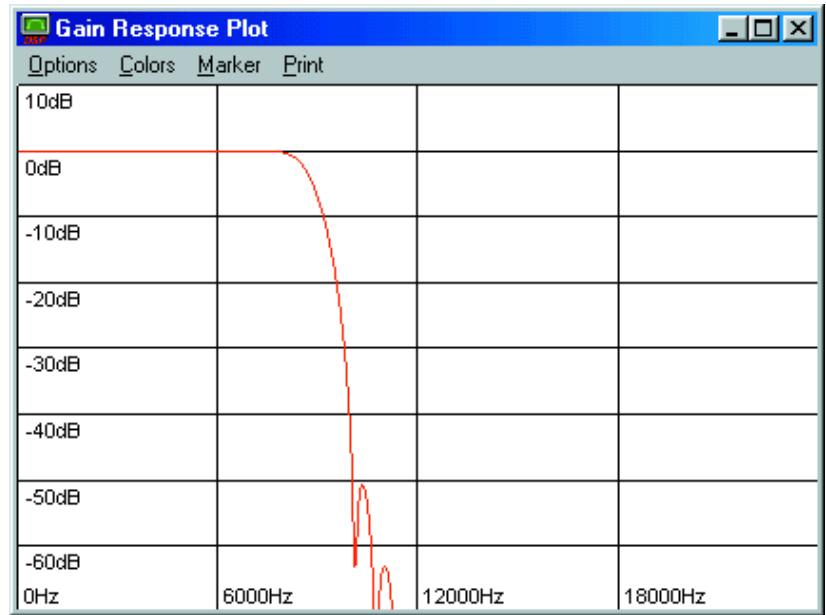

Figure 2. An FIR Filter frequency response.
**Figure 2** shows the frequency response characteristic of a low-pass filter. The horizontal axis represents the signal frequency passing through the filter while the vertical axis shows the filter attenuation. 0 dB indicates that the filter does not attenuate the signal at all. An important property of any filter is its cut-off frequency. This is the point at which the filter attenuation causes the output signal to fall to 3 dB less than the input signal. The characteristic shown here indicates that this low-pass filter has a cut-off frequency of approximately 9 KHz.